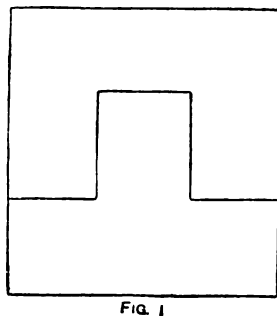
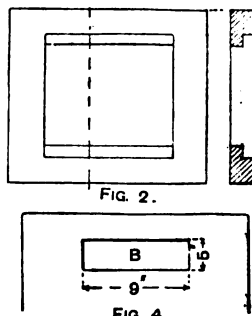
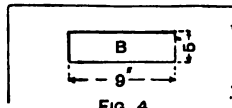
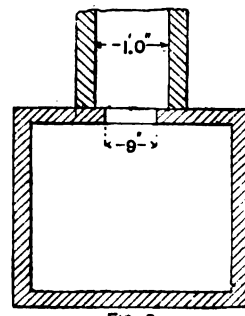

FIG. 1
FIG. 2.
FIG. 4
FIG. 3
**Hand Camera See-saw Shutter.**—To make a see-saw shutter to fit the hood of a lens  $1\frac{1}{2}$  in. in diameter, cut two plates of thin metal (Figs. 1 and 2) with the perforations shown, and groove two strips of brass like Fig. 3. These strips are fixed to the plates by riveting through the holes A. Now cut two plates like Figs. 4 and 5, and affix brass pins where shown. These pins are made to run very freely in the grooves of Fig. 3. Cut a bar (Fig. 6) with slots C, passing them over the pins. Having fitted these into place, and the brass clip (Fig. 7) for the cylinder at D and E, turn over the extra pieces F from the dotted lines in Figs. 1 and 2. The cylinder and rod shown in Fig. 8 is next made; it must work freely, and
**Pile Points.**—Figs. 1 and 2 show cast-iron shoes for wooden piles such as would be used for piles intended to carry the weight of a structure. Fig. 3 is a cast-iron shoe for sheet piling, and is used for piles that are to be brought close together, so as to make as tight a joint as possible. Fig. 4 shows the screwed point of a solid iron pile used as a mooring pile. Fig. 5 is the screwed point of a cylindrical iron pile, as used for foundations of piers,
**Furnace for Melting Brass.**—A furnace made as follows will be found suitable for melting about 100 lb. of metal at a time. Make a hole in the floor 6 ft. 6 in. deep by 5 ft. wide by 6 ft. 9 in. from front to back. Cover the bottom of this with a brick floor, and well grout in with mortar. At a distance of 2 ft. 6 in. from the front of the hole, commence building the furnace proper. Build as Fig. 1, to a height of 2 ft. 9 in. Next get a framework of iron 18 in. square by 2½ in. thick, with a hole 12 in. square in the middle (see Fig. 2). A recess is cast in the front and back of the casting to carry the fire-bars, of which there are either three or four. After placing the iron-work for the furnace bottom in position, arch over the draughtway and continue the brickwork for a height of 2 ft. 6 in., using common brickwork for the outside, but best firebrick, well grouted in with fireclay, for the inside. This brings the brickwork up to the flue-hole. This (see Figs. 3 and 4) is formed by building a firebrick lined chamber, 12 in. square inside, and communicating with the chamber of the furnace by a passage B (Fig. 4) 9 in. long by 5 in. broad. Continue the brickwork another